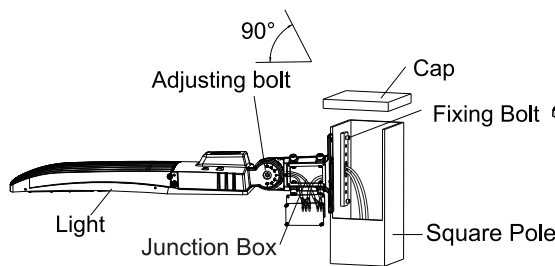

Figure 17
Step 2: Fix A&D bracket to square pole with bolt, open the cover of A&D bracket junction box, pull the wire into bracket junction box, connect the wire properly and cover the junction box. (Figure 17)
Notice: Adjustable angle is 0-90° (Figure 17)